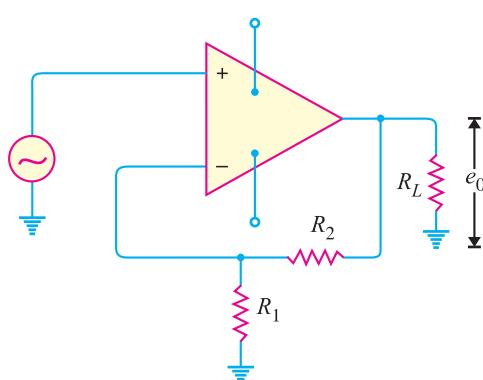

Fig. 13.30
- Fig. 13.30 shows the negative feedback amplifier. If the gain of the amplifier without feedback is 10^5 and $R_1 = 100\Omega$, $R_2 = 100\text{k}\Omega$, find (i) feedback fraction (ii) gain with feedback.